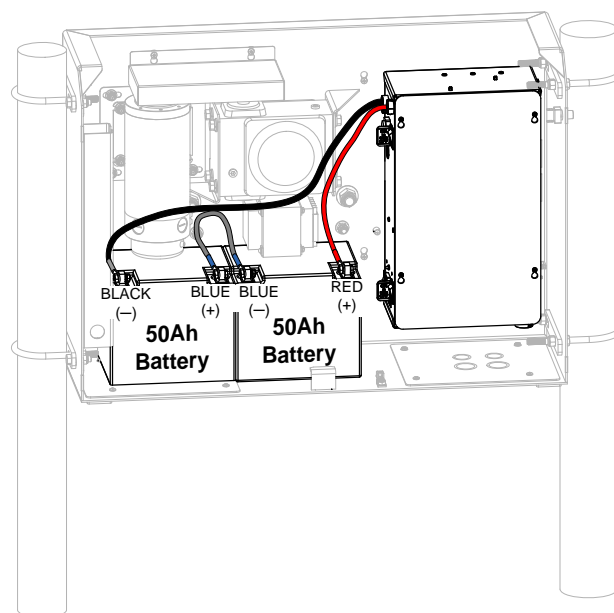

Figure 25. Wired Extended Battery Backup Kit
3. Place the two 50Ah batteries on the chassis. See Figure 25.
4. Attach the blue wire from the red terminal on one 50Ah battery to the black terminal on other 50Ah battery. See Figure 25.
5. Run the red and black wires (disconnected from the 8Ah batteries) through the hole in the control box. See Figure 25.
6. Using the wires supplied in the 50Ah battery kit, attach the red wire to the red positive terminal on the 50Ah battery. Connect its opposite end to the control box DC power switch. See Figure 25.
7. Connect the black wire to the black negative terminal on the 50Ah battery. Connect its opposite end to the control box DC power switch. See Figure 25.